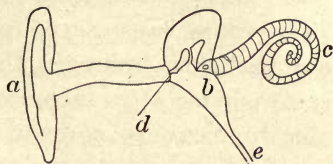

FIGURE 58.—DIAGRAM OF THE EAR.
85. The Ear.—The ear is the instrument with which we receive sound. The receiving is done in accordance with the principle of resonance. Figure 58 shows a section of the ear. The part (a) is that which we can see outside the head, and is called the *external ear*. From this a tube leads into the *middle ear* (b). Over the end of this tube is stretched a membrane (d) called the *ear-drum*. In the middle ear, attached to the ear-drum, is a series of three little bones. The last of these fits up against the end of a spiral tube called the *cochlea* or *inner ear* (c).